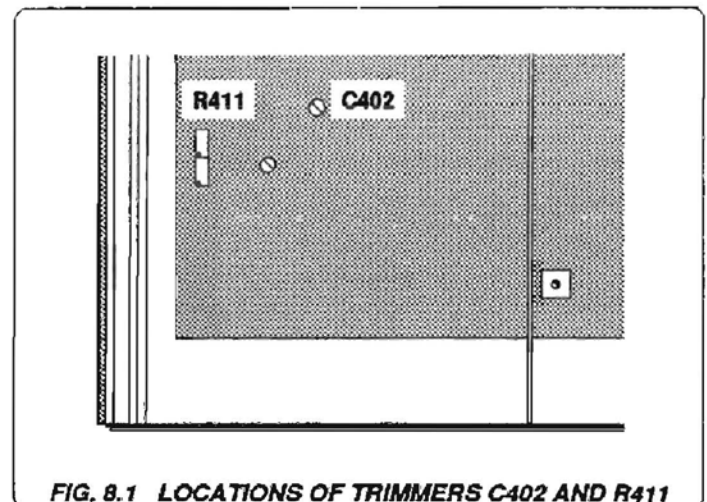

FIG. 8.1 LOCATIONS OF TRIMMERS C402 AND R411
- e. Using the adjustment tool, adjust C402 (see Fig. 8.1) for a minimum peak-to-peak value of the scope waveform. Check that this is less than 5mV. (If this cannot be achieved, a fault exists which must be corrected before proceeding.)
- c. Adjust R411 (see Fig. 8.1) to give a DVM reading as close to zero as possible, and check that this is less than 5 μ V. (If this cannot be achieved, a fault exists which must be corrected before proceeding.)
- Looking from the front at the bottom of the instrument (now on the right side), identify the bus-bar screw at connection E26 on the Output PCB (see Fig. 8.1 and page 10.2-8).